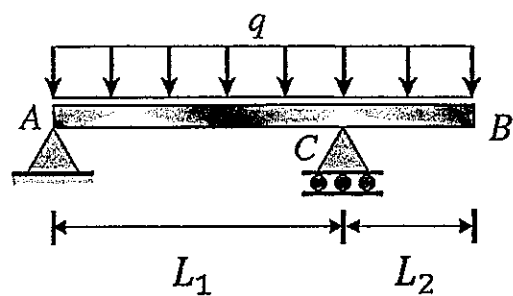
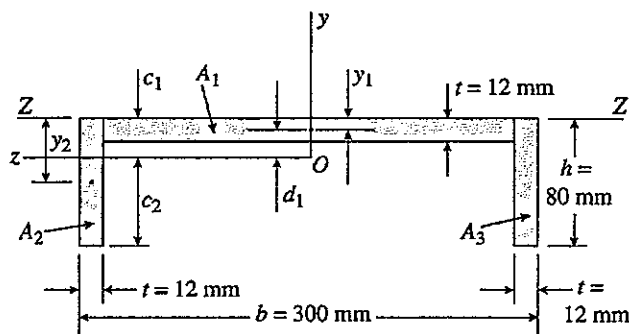

Fig. 2-1
Fig. 2-2
2. A simply-supported beam with overhang is shown in Fig. 2-1. The support at point A is a hinge, and the support at point C is a roller. There is a uniformly distributed load q spanning all over beam ACB . The cross-section of the beam is shown in Fig. 2-2, and the external load q results in bending with respect to the z -axis (i.e., the axis of centroid). Also, it is known that $L_1 = 3.0$ m, $L_2 = 1.5$ m, $c_1 = 18.48$ mm, $c_2 = 61.52$ mm, and $I_z = 2.469 \times 10^6$ mm⁴ (i.e., the moment of inertia with respect to the axis of centroid). Determine the maximum permissible value of q (in kN/m) if the allowable tensile stress and compressive stress are $\sigma_{at} = 105$ MPa and $\sigma_{ac} = 90$ MPa, respectively. (Ignore the self-weight of the beam.) (25%)